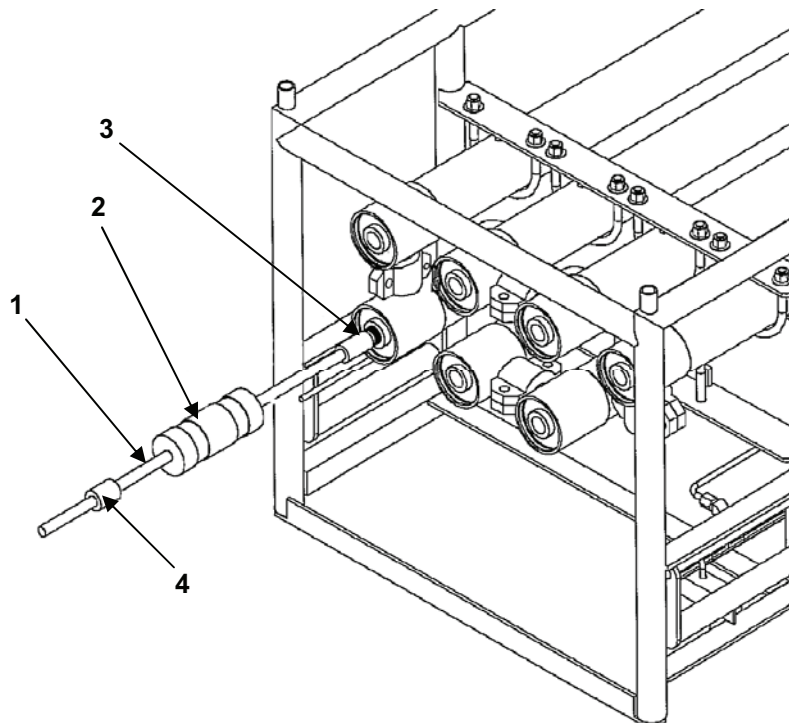

Figure 5. End Cap Removal Tool.
3. Thread the brass adapter (Figure 5, Item 3) into the end cap. Tighten as far as possible. Hand tighten only.
4. Thread the slide rod (Figure 5, Item 1) onto the adapter (Figure 5, Item 3).
5. Use the slide hammer (Figure 5, Item 2) to hammer against the stopper (Figure 5, Item 4) to remove the end cap.
1. Refer to Figure 5 for this procedure section.
4. Thread the brass adapter of slide hammer (Figure 5, Item 3) as far as possible in the end cap. Tighten as much as possible. **Hand tighten only.** See Figure 5.
5. Thread the slide rod (Figure 5, Item 1) on the brass adapter (Figure 5, Item 3).
6. Use the slide hammer (Figure 5, Item 2) to hammer against the brass adapter (Figure 5, Item 3). Stop when end cap bottoms out and retaining ring groove is visible.